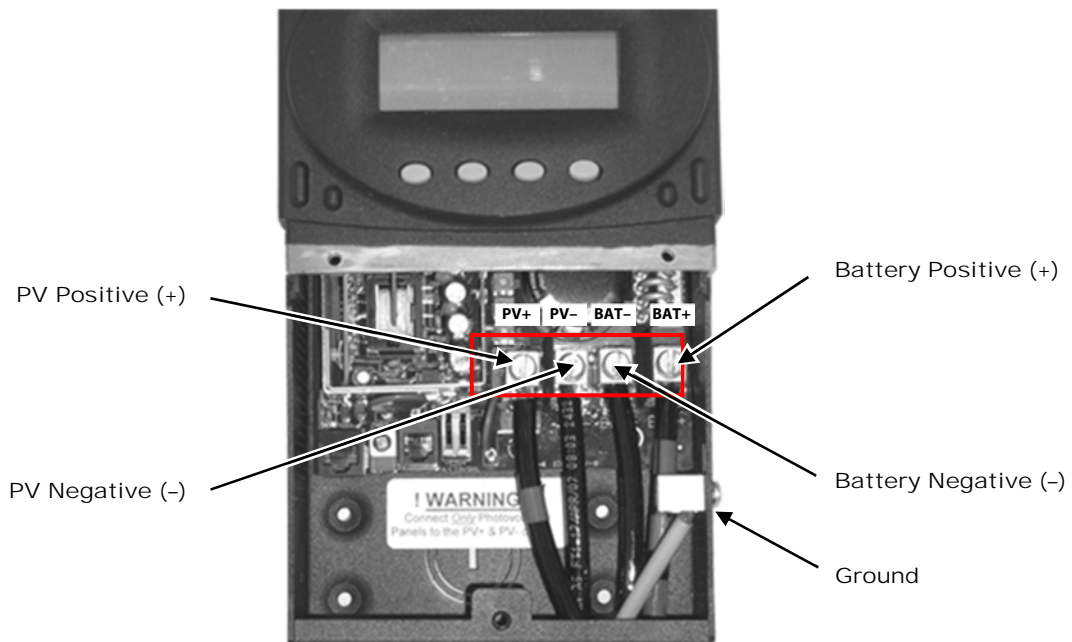

Figure 32 PV Connections in the FLEXmax Charge Controller
2. Connect the PV negative wire to the charge controller's PV negative (–) terminal (see Figure 32).